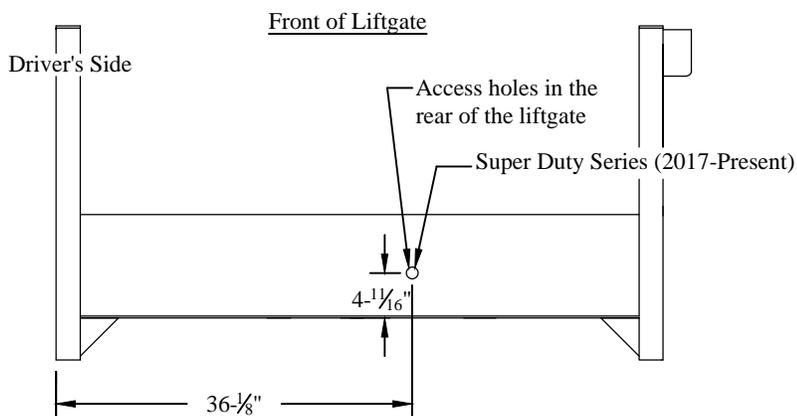

Figure 12: Spare tire access.
2. **Remove** the black plastic plug(s) for your application (Figure 12).